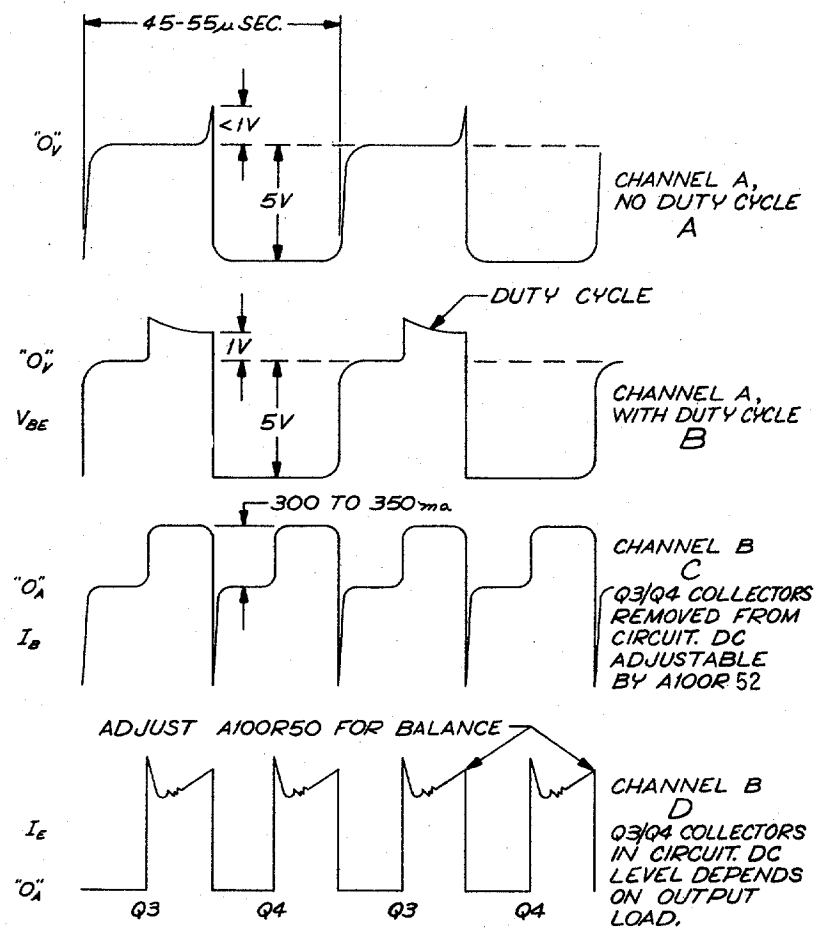

Figure 5-7 Switching Transistor Waveforms
7. Place line power to ON. The unit should be working under deep current limiting mode. Check the following: (See waveform pattern "A", Figure 5-7).
8. Slowly adjust A100R52 CW. On the oscilloscope, the presence of a duty cycle will be observed. (See waveform patterns "B" and "C", Figure 5-7.) If A100R52 has no control over the duty cycle, check current limit circuit.
6. Apply nominal input power and turn A100R52 slowly CW. The output voltage should increase and the current waveform on oscilloscope channel B should appear as in pattern "D" of Figure 5-7.